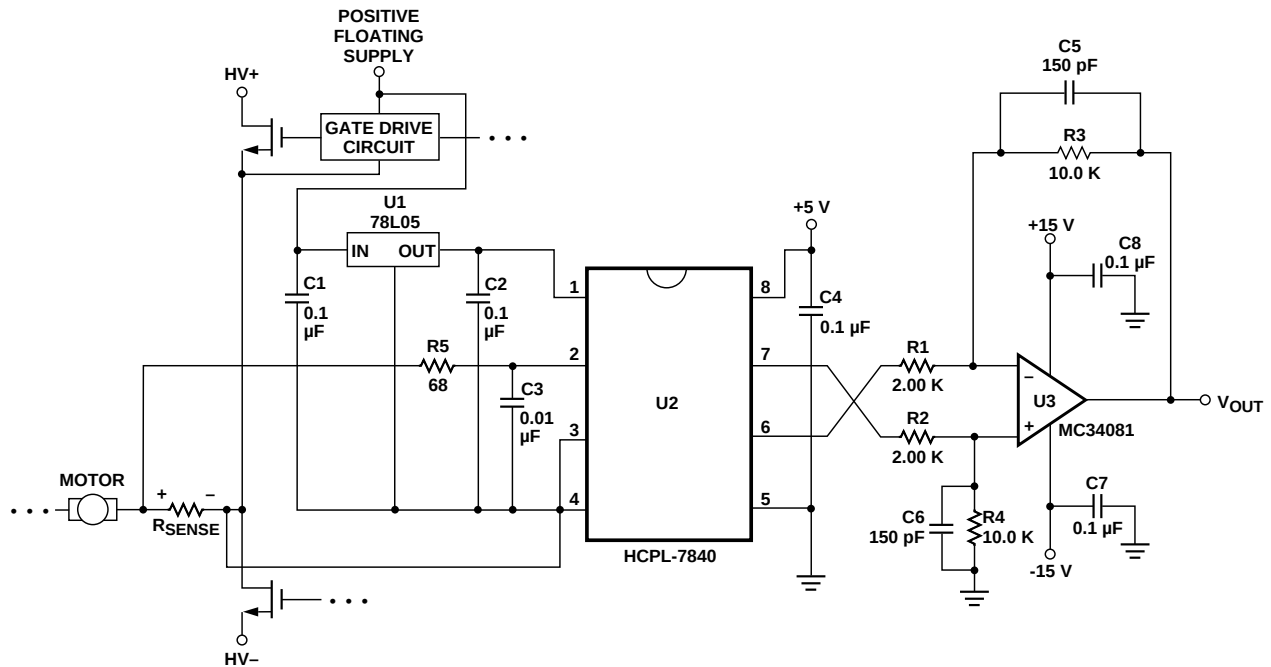

Figure 23. Recommended Application Circuit.
8. CMR (also known as IMR or Isolation Mode Rejection) specifies the minimum rate of rise of a common mode noise signal applied across the isolation boundary at which small output perturbations begin to appear. These output perturbations can occur with both the rising and falling edges of the common mode waveform and may be of either polarity. A CMR failure is defined as a perturbation exceeding 200 mV at the output of the recommended application circuit (Figure 23). See applications section for more information on CMR.
The recommended application circuit is shown in Figure 23. A floating power supply (which in many applications could be the same supply that is used to drive the high-side power transistor) is regulated to 5 V using a simple three-terminal voltage regulator (U1). The voltage from the current sensing resistor, or shunt (Rsense), is applied to the input of the HCPL-7840 through an RC anti-aliasing filter (R5, C3). And
As shown in Figure 23, 0.1 μ F bypass capacitors (C2, C4) should be located as close as possible to the input and output power supply pins of the HCPL-7840. The bypass capacitors are
The recommended method for connecting the isolation amplifier to the shunt resistor is shown in Figure 23. Pin 2 (V_{IN+}) is connected to the positive terminal of the shunt resistor, while pin 3 (V_{IN-}) is shorted to pin 4 (GND1), with the power-supply return path functioning as the sense line to the negative terminal of the current shunt. This allows a single pair of wires or PC board traces to connect the isolation amplifier circuit to the shunt resistor. In some applications, however, supply currents flowing through the power-supply return path may cause offset or noise problems. In this case, better performance may be obtained by connecting pin 3 to the negative terminal of the shunt resistor separate from the power supply return path. When connected this way, both input pins should be bypassed. Whether two or three wires are used, it is recommended that twisted-pair wire or very close PC board traces be used to connect the current shunt to the isolation amplifier circuit to minimize electromagnetic interference to the sense signal.
The recommended application circuit (Figure 23) includes a post-amplifier circuit that serves three functions: to reference the output signal to the desired level (usually ground), to amplify the signal to appropriate levels, and
To maintain overall circuit bandwidth, the post-amplifier circuit should have a bandwidth at least twice the minimum bandwidth of the isolation amplifier, or about 200 kHz. To obtain a bandwidth of 200 kHz with a gain of 5, the op-amp should have a gain-bandwidth greater than 1 MHz. The post-amplifier circuit includes a pair of capacitors (C5 and C6) that form a single-pole low-pass filter. These capacitors allow the bandwidth of the post-amp to be adjusted independently of the gain and are useful for reducing the output noise from the isolation amplifier (doubling the capacitor values halves the circuit bandwidth). The component values shown in Figure 23 form a differential amplifier with a gain of 5 and a cutoff frequency of approximately 100 kHz and were chosen as a compromise